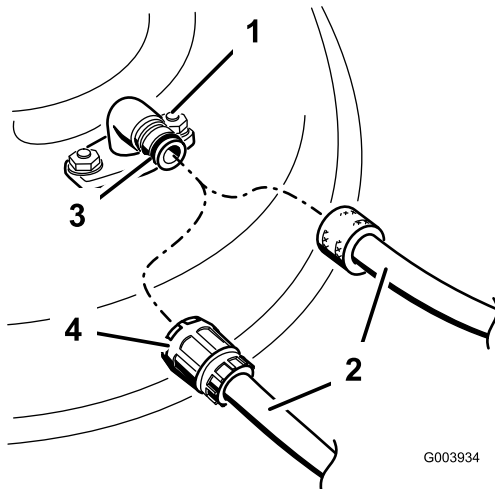

Figure 58
3. Attach the hose coupling to the end of the cutter deck washout fitting, and turn the water on high (Figure 58).